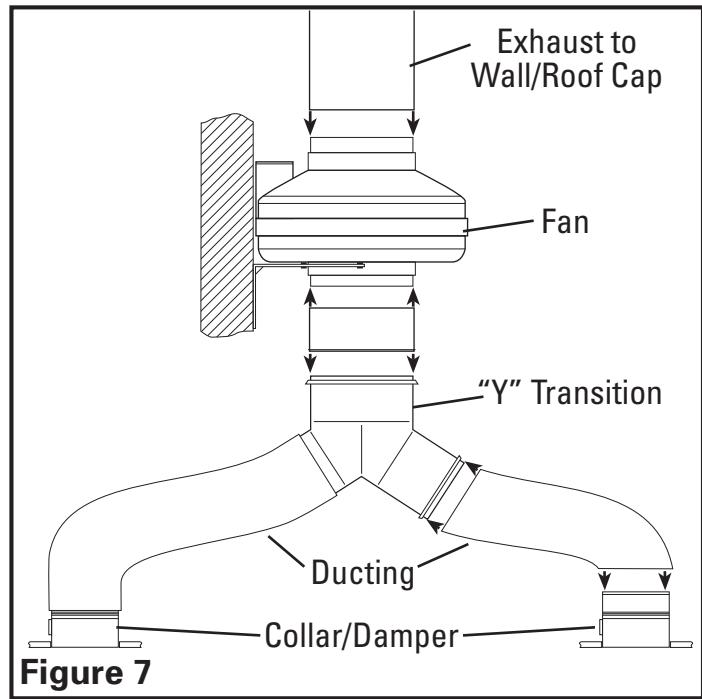

Figure 7
- Connect one end of the ducting (not included) to the room level collar/damper and the other end to the "Y" transition. Secure both ends in place using tape or a screw clamp to create as air tight a seal as possible. Repeat this step for the other room level grill housing (**Figure 7**).
- Connect one end of the ducting to the top of the "Y" transition and the other end to the intake of the fan (**Figure 7**).
- Connect one end of the ducting to the exhaust of the fan and the other end to a wall or ceiling cap (**Figure 7**). Always duct the fan to the outside through a wall or roof cap.